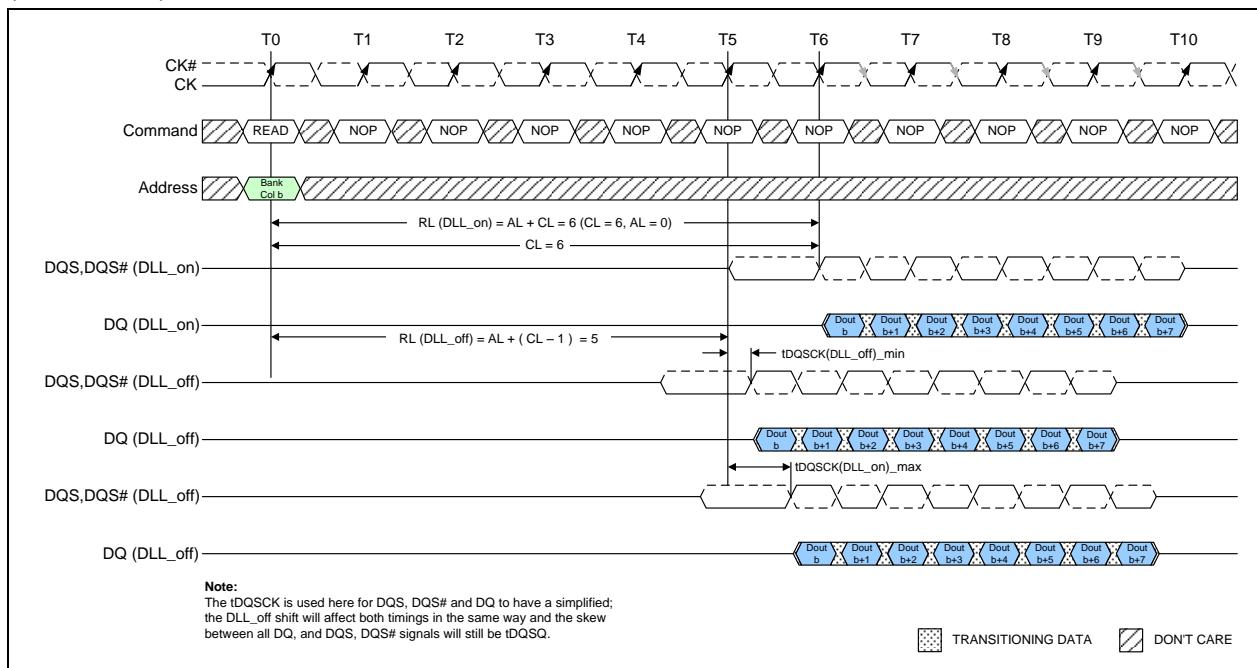

Figure 9 – DLL-off mode READ Timing Operation
3. If the Rtt\_Nom feature was enabled in the mode register prior to entering Precharge power down mode, the ODT signal must continuously be registered LOW ensuring RTT is in an off state, as shown in Figure 9. If the Rtt\_Nom feature was disabled in the mode register prior to entering Precharge power down mode, RTT will remain in the off state. The ODT signal can be registered either LOW or HIGH in this case.